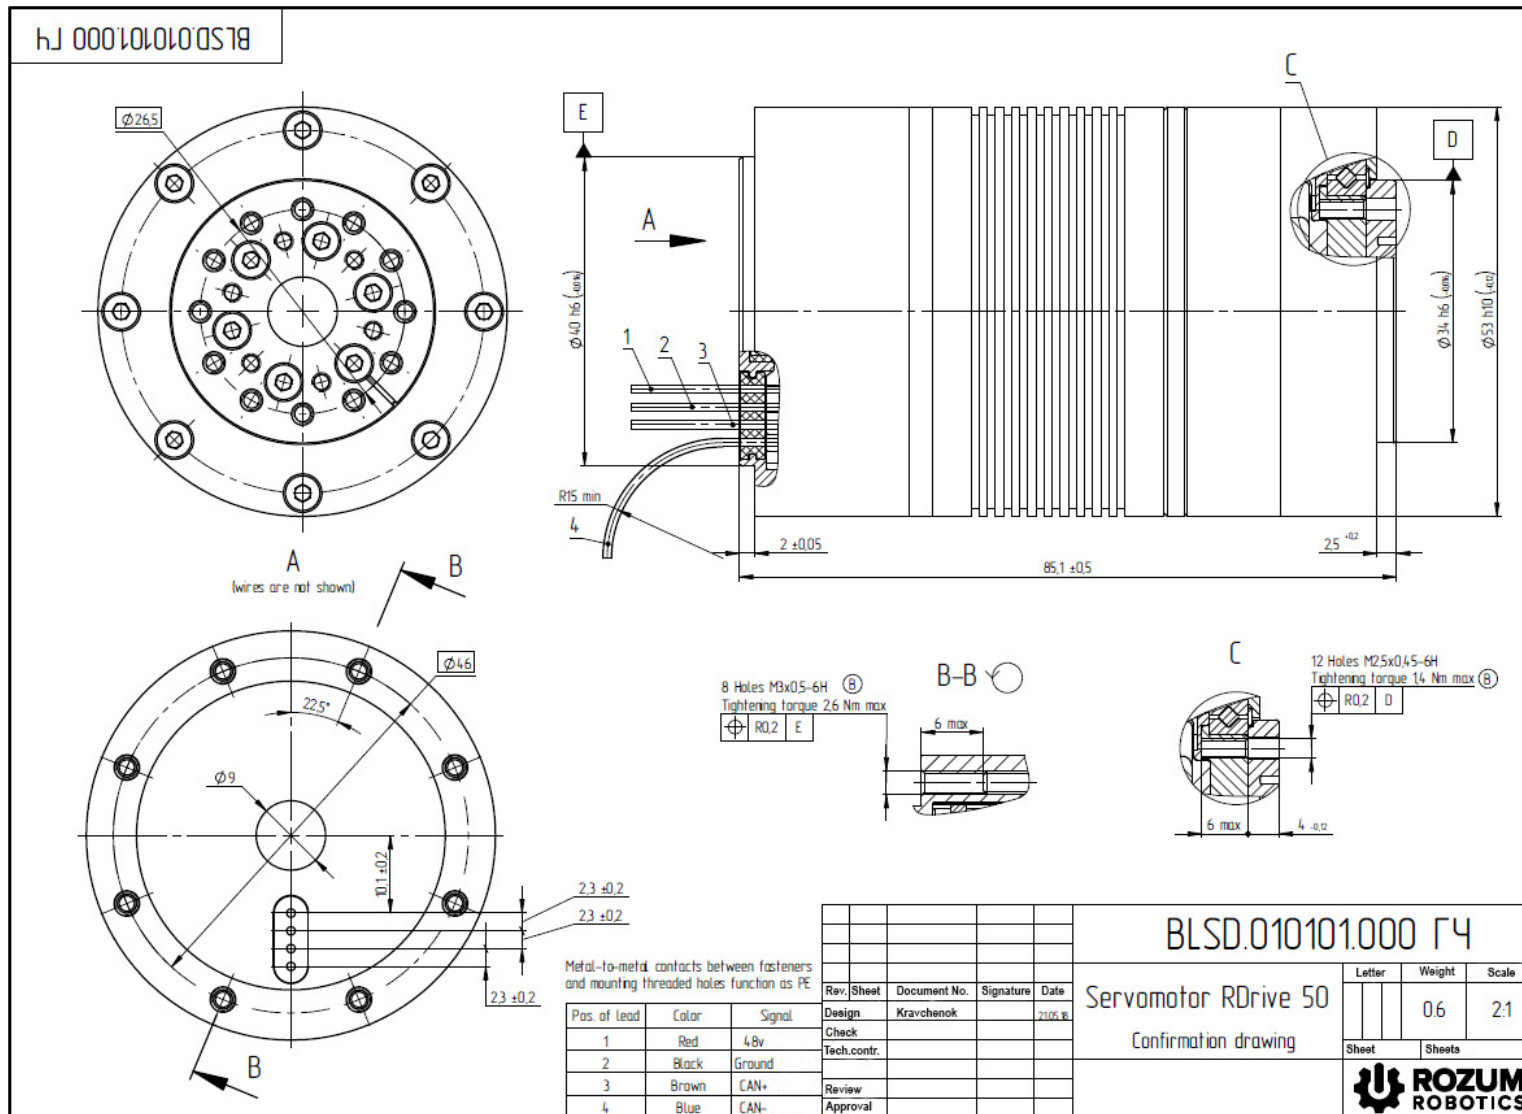

Figure 4-1: The installation drawing for the RD50 servo motor
2. Fasten the servo to the machine. To do this, insert eight M3 screws into the holes on the rear mounting flange and tighten them to the torque of 2.6 N·m max (see Figure 4.1).
3. Screw a load down to the output flange using the twelve M2.5 holes and applying the torque of 1.4 N·m max (see Figure 4.1).
For the color scheme, cable arrangement, and protective earthing, refer to Figure 4-1.
- protective earthing (see Figure 4.1)